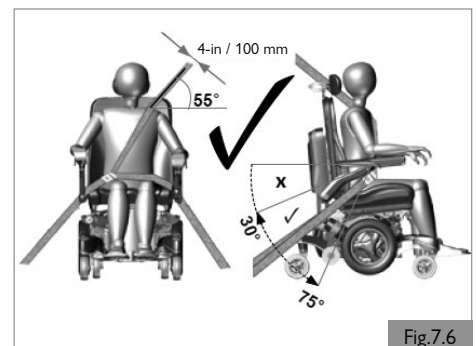
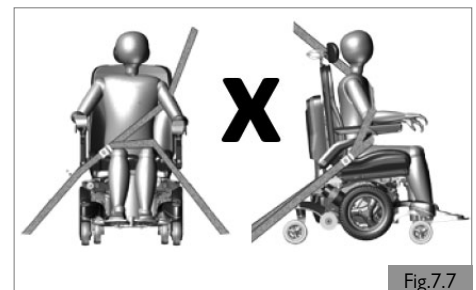

Fig.7.6
Fig.7.7
3. Restraints should be mounted to the appropriate vehicle pillar and should not be held away from the body by wheelchair components such as armrest or wheels (Fig. 7.6).
2. A steeper (greater) angle within the preferred zone is desirable i.e. closer to, but never exceeding 75° degrees (Fig. 7.6).
- a. The upper torso restraint belt must fit over the shoulder and across the chest as illustrated (Fig. 7.6). Restraint belts must be adjusted as tightly as possible consistent with user comfort. Do not fit restraint belt as shown in Fig. 7.7.